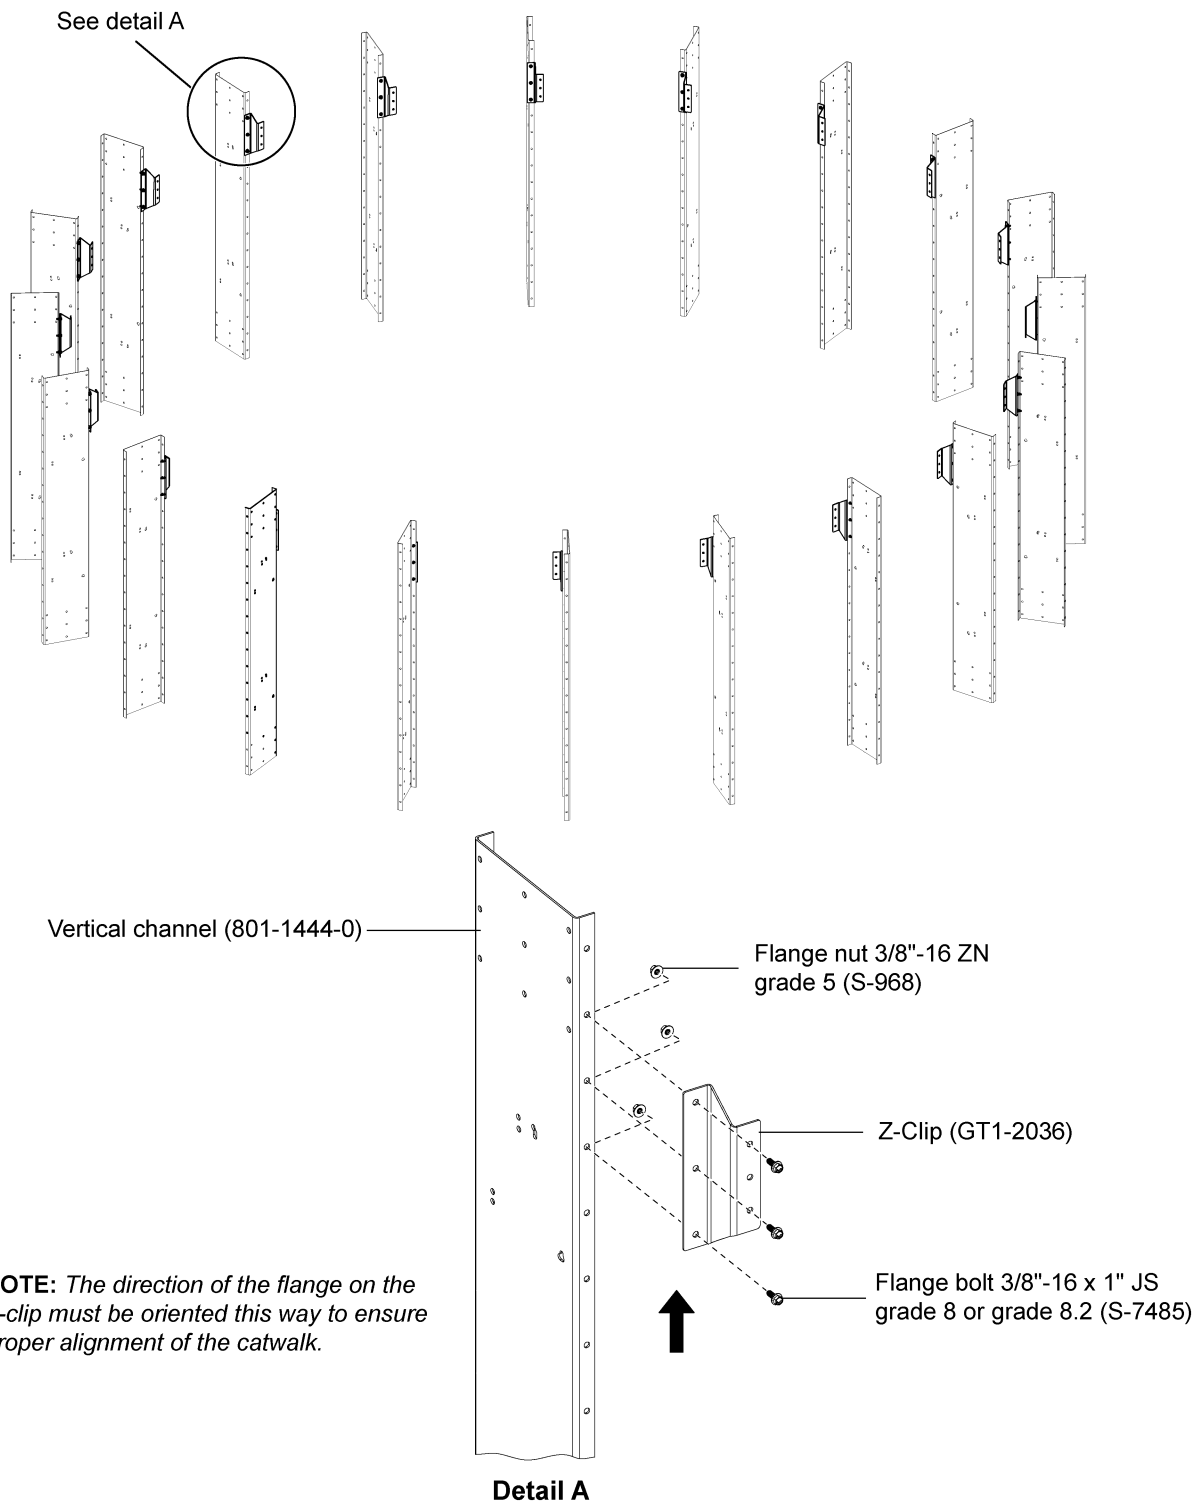

Figure 5A
1. Bolt Z-clips (GT1-2036) to all vertical channels (801-1444-0). The Z-clip can be installed on each vertical channel as inner wall sheets are installed using 3/8"-16 x 1" JS grade 8 or grade 8.2 bolts (S-7485) and 3/8"-16 ZN grade 5 nuts (S-968). (See Figure 5A.)